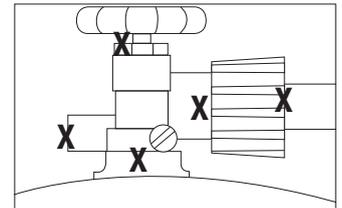

Figure 4
9. If igniter does not light burner, use a lit match secured with the lighting rod (included with grill) to light burners. Access the burners through the cooking grid and heat plates. Position lit match near side of burner (Figure 4).